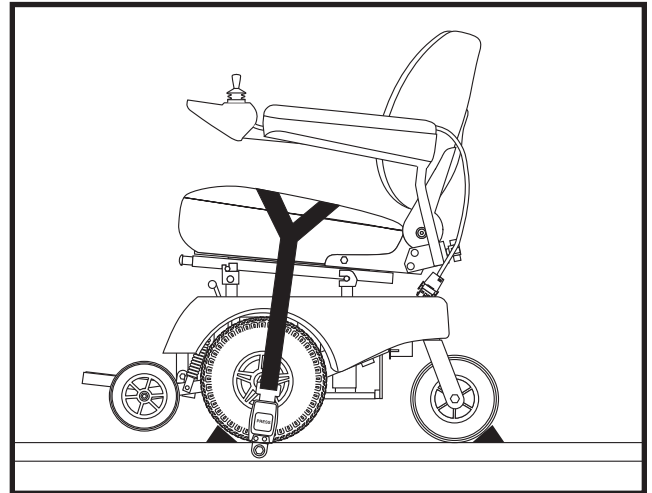

Figure 10. Y-strap Positioning
4. Secure the mobility device to the platform by draping the Y-strap over the seat and buckling the strap securely. **See figure 10.**